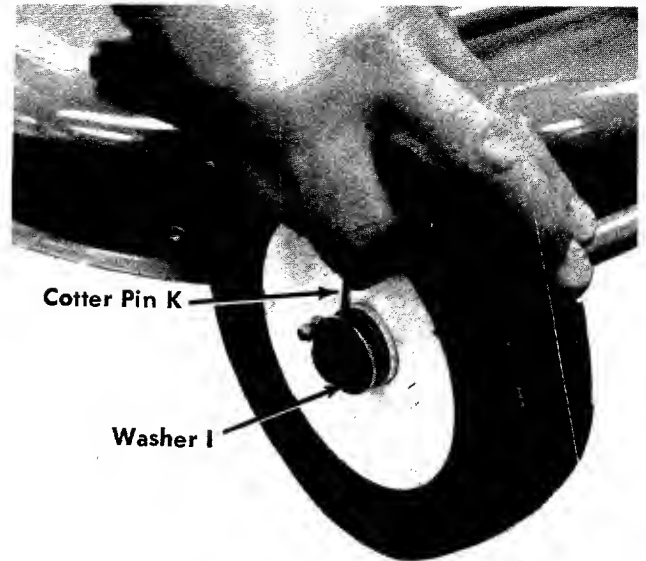

FIGURE 7. DECK WHEEL ASSEMBLY
- Step 11. Place the deck wheel over the deck axle and secure it with washer "I" and cotter pin "K". See figure 7.